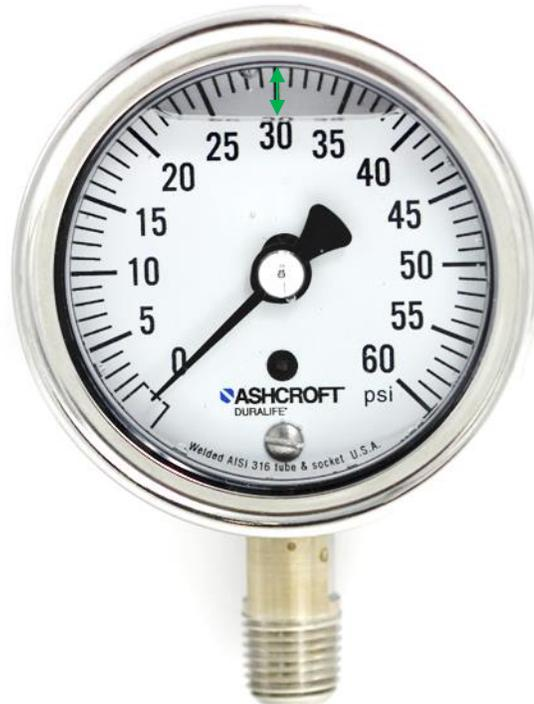

Figure 1 – 251009SWL02L60# Pressure Gauge
- Hold the gauge vertically and dispense the fill fluid through the fill hole. The correct fill level is when the distance from the horizontal fill line to the inside diameter of the gauge ring (bezel) meets the dimensions on the table below (see green arrows in figure 1 for reference).